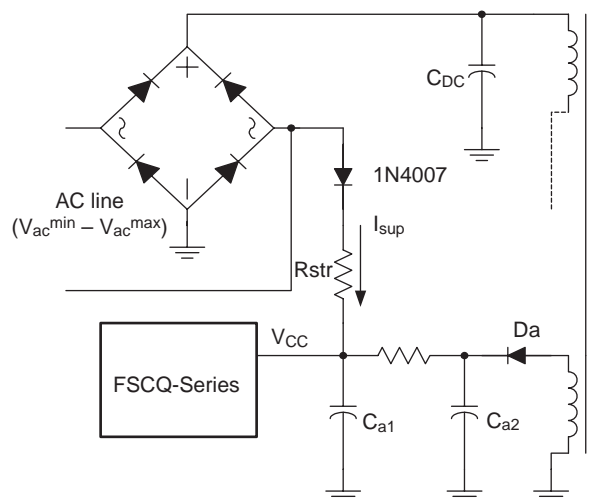
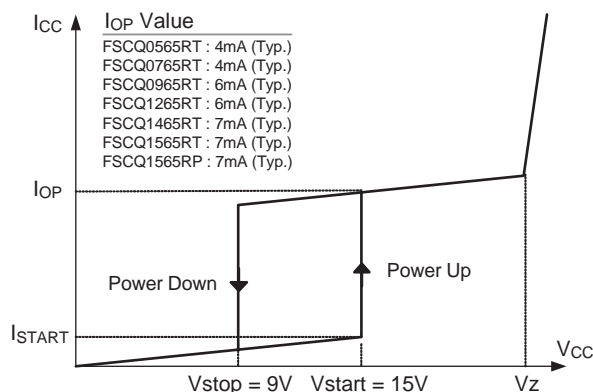

Figure 4. Startup circuit
Figure 5. Relationship Between Operating Supply Current and  $V_{CC}$  Voltage
**1. Startup:** Figure 4 shows the typical startup circuit and the transformer auxiliary winding for the FSCQ-Series. Before the FSCQ-Series begins switching, it consumes only startup current (typically 25μA). The current supplied from the AC line charges the external capacitor ( $C_{a1}$ ) that is connected to the  $V_{CC}$  pin. When  $V_{CC}$  reaches the start voltage of 15V ( $V_{START}$ ), the FSCQ-Series begins switching, and its current consumption increases to  $I_{OP}$ . Then, the FSCQ-Series continues its normal switching operation and the power required for the FSCQ-Series is supplied from the transformer auxiliary winding, unless  $V_{CC}$  drops below the stop voltage of 9V ( $V_{STOP}$ ). To guarantee the stable operation of the control IC,  $V_{CC}$  has under voltage lockout (UVLO) with 6V hysteresis. Figure 5 shows the relationship between the operating supply current of the FSCQ-Series and the supply voltage ( $V_{CC}$ ).